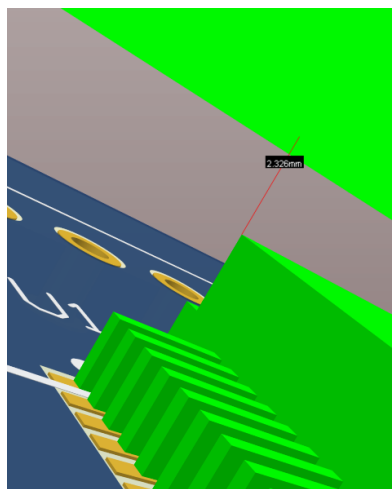

Figure 9. DRC Violation indicated by LCD and FPGA highlighted in green
32. In the PCB, the LCD display and the FPGA will be highlighted in the DRC violation color, as illustrated in Figure 9.